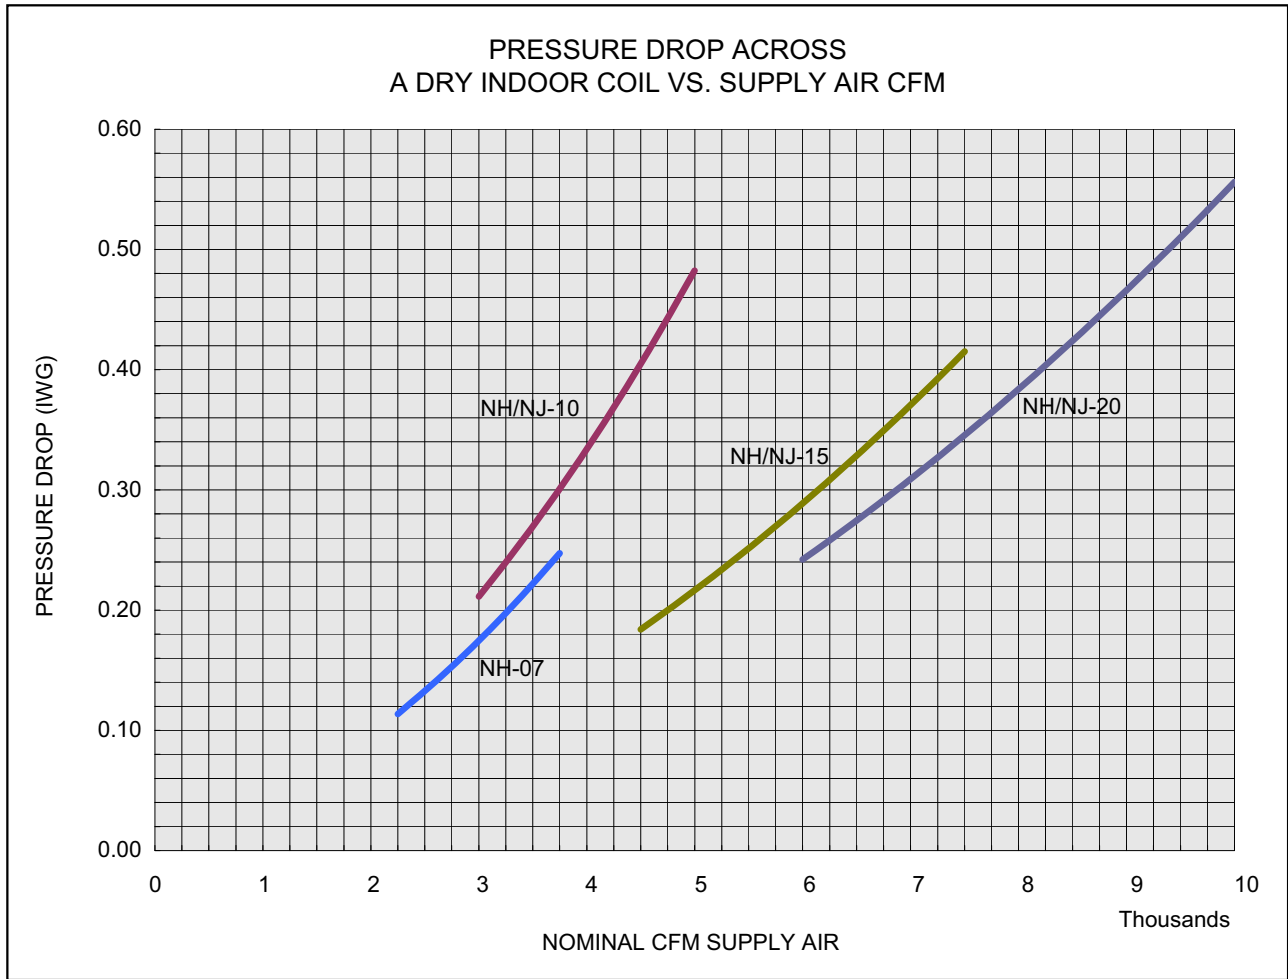

Figure 22: Pressure Drop Across A Dry Indoor Coil vs. Supply Air CFM
4. Knowing the pressure drop across a dry coil, the actual CFM through the unit can be determined from the curves shown in Figure 22.